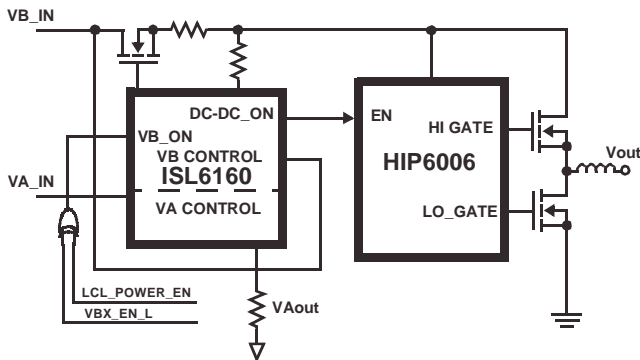

FIGURE 2. SIMPLIFIED ISL6160EVAL2 BLOCK DIAGRAM
On the IM the ISL6160 is necessarily paired with a DC-DC converter to convert 12V to a lower usable voltage for the application circuitry. Figure 2 shows a block diagram of a complete IM power sequencer and power supply using the ISL6160 and a HIP6006, single output PWM DC-DC converter.
Available from Intersil is the ISL6160EVAL2. The ISL6160EVAL2 is a complete InfiniBand Class I (non isolated) power topology evaluation platform consisting of the ISL6160 and the HIP6006 single output PWM controller. See Figure 2 for a simplified block diagram of the ISL6160EVAL2 platform. This evaluation platform allows the Infiniband Module (IM) power supply designer to evaluate the concept of this design and apply it to a specific IM power requirement. The evaluation platform is configured for 5V V_{out} and 3A I_{out} capability and exhibits a 92% total efficiency. See Figures 19 and 20 for ISL6160EVAL2 turn-on and turn-off waveforms.